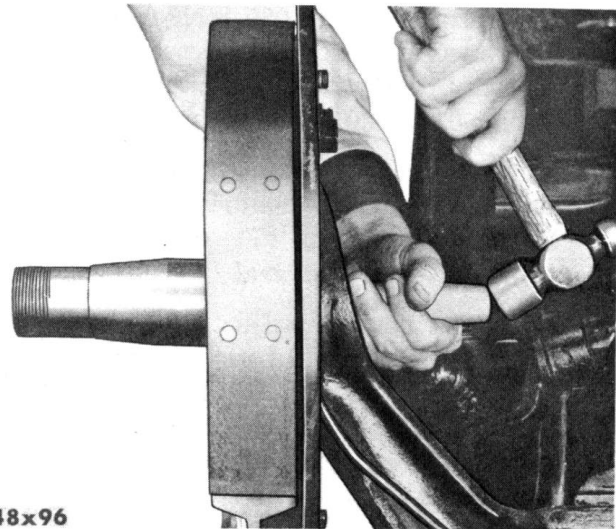

Fig. 104—Installing Rear Wheel Drive Shaft Small Seal
- (2) Install proper seal, using Tool DD-1126 (Fig. 104).